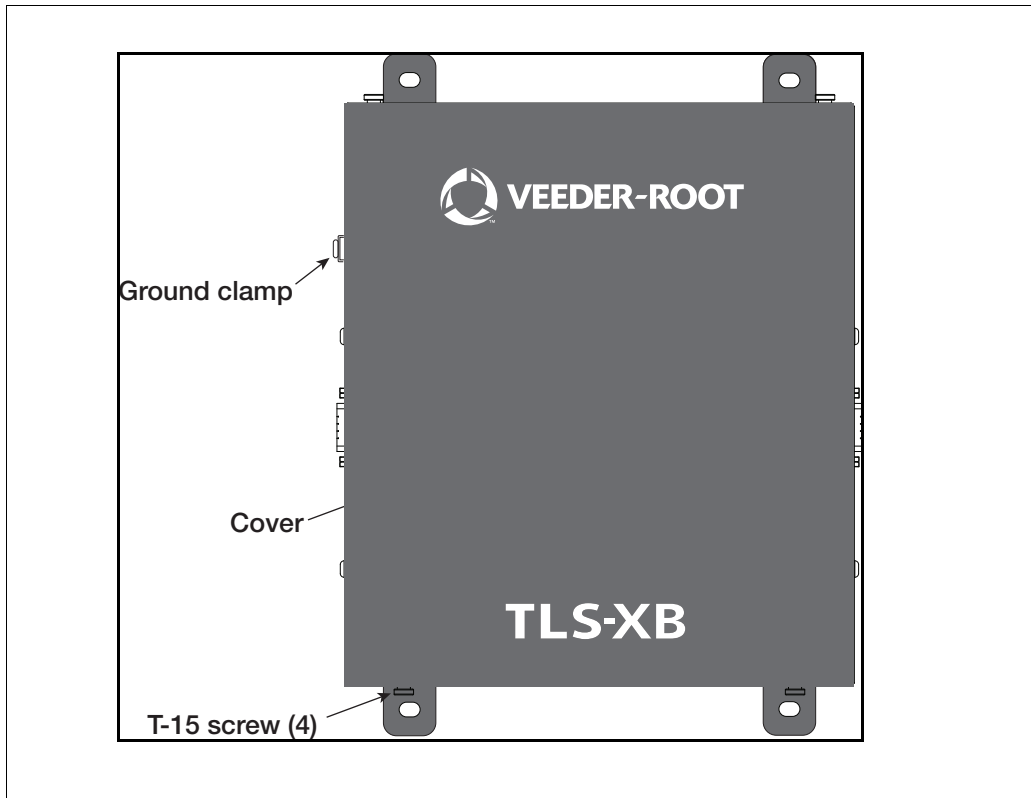

Figure 4. Removing The TLS-XB Expansion Box Cover
The TLS-XB Expansion Box's grounding clamp (see Figure 4) must be connected to a separate earth ground using 4 mm² (#10AWG) minimum cable.
1. Using a T-15 Torx driver, remove the top and bottom screws securing cover and lift cover off enclosure (see Figure 4).